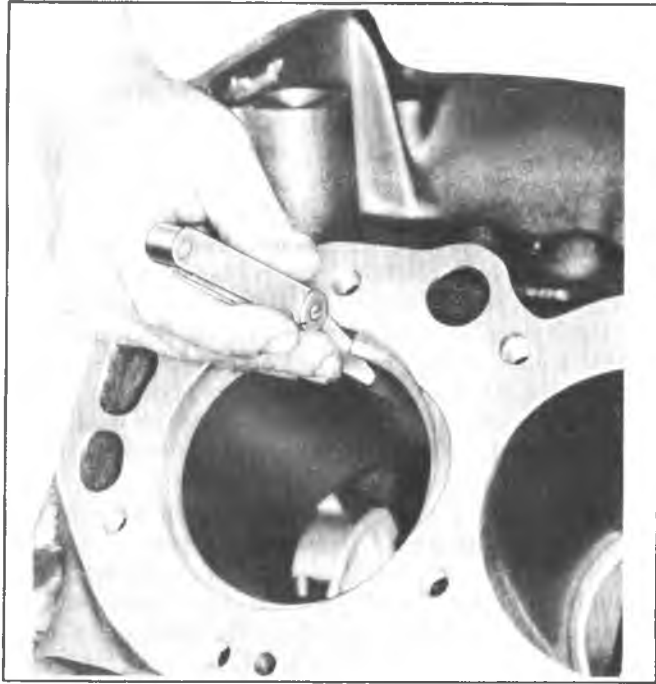

Fig. 6A5-54--Measuring Ring Gap
7. Slip the outer surface of the top and second compression ring into the respective piston ring groove and roll the ring entirely around the groove (fig. 6A5-55) to make sure that the ring is free. If binding occurs at any point, the cause should be determined. If binding is caused
8. Install piston rings as follows (fig. 6A5-56):